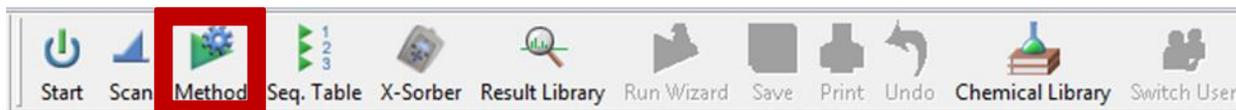

Figure 4.17 – GSS toolbar
1. Open the “Griffin System Software” and select the “Method” button from the top of the toolbar (Figure 4.17).
the quant ion specified when setting up the method in GSS. The **scanId="number"** is the scan index number corresponding to the MS/MS scan in the method as specified in the "MS Method Tab," see figure 4.17. This number will be one less than the number of the scan in the method (i.e. if MS/MS scan for "A" was #2 in the method, the scanId will be 1). The **consecutive="number"** is the number of times the subsequent rules must be met before an alarm will occur.